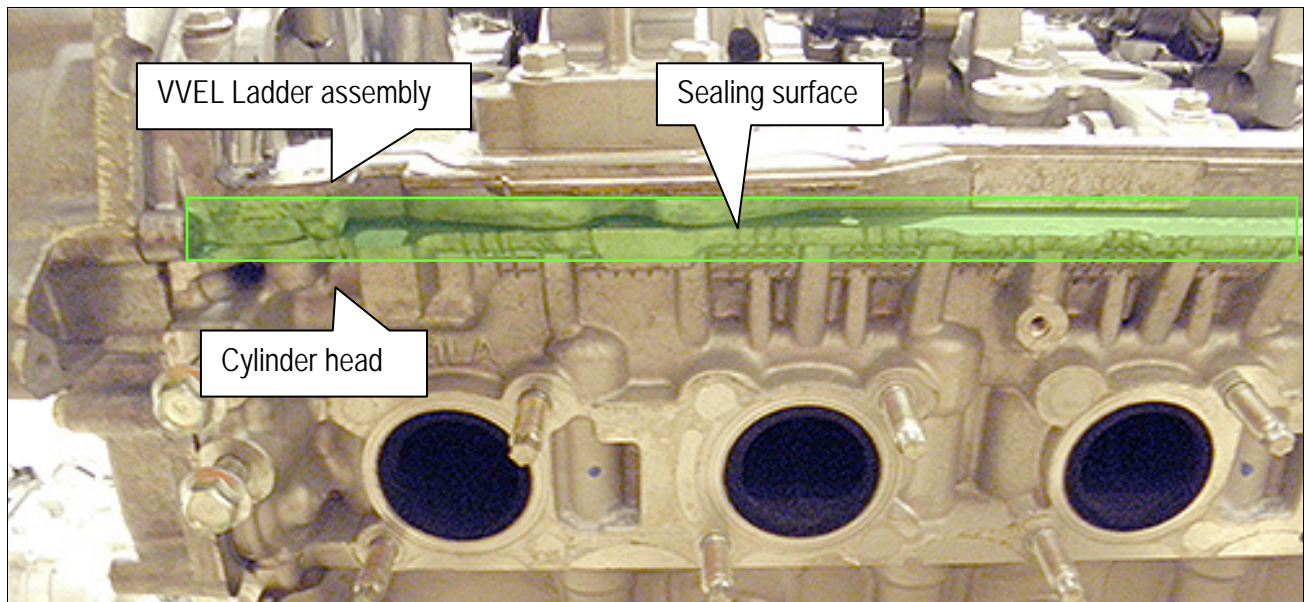

Figure 1
Oil is leaking from bank 1 and/or bank 2 at any point between the VVEL ladder assembly and the related cylinder head at sealing surface shown in Figure 1.
**NOTE:** Figure 1 does not show the entire sealing surface that can be affected and is only an example of where a leak may be found.